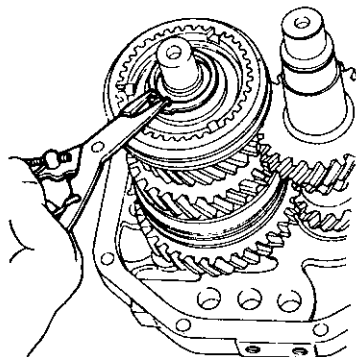

Fig. MT-33 Installing snap ring
5. Install thrust washer on mainshaft and secure it with snap ring of proper thickness that will fit the groove in mainshaft. See Figure MT-33.